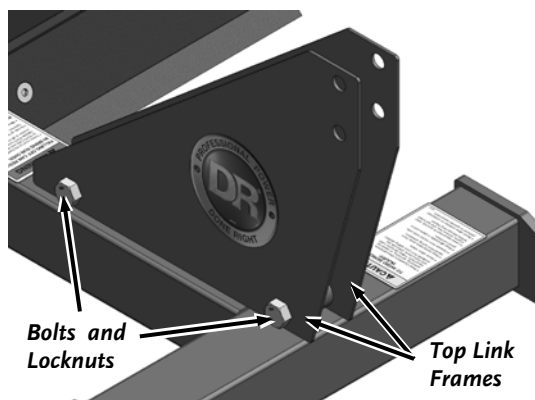

Figure 7
6. Loosely secure the two Top Link Frames to the Frame with two M20 X 100 Bolts and two M20 Lock Nuts (**Figure 7**).